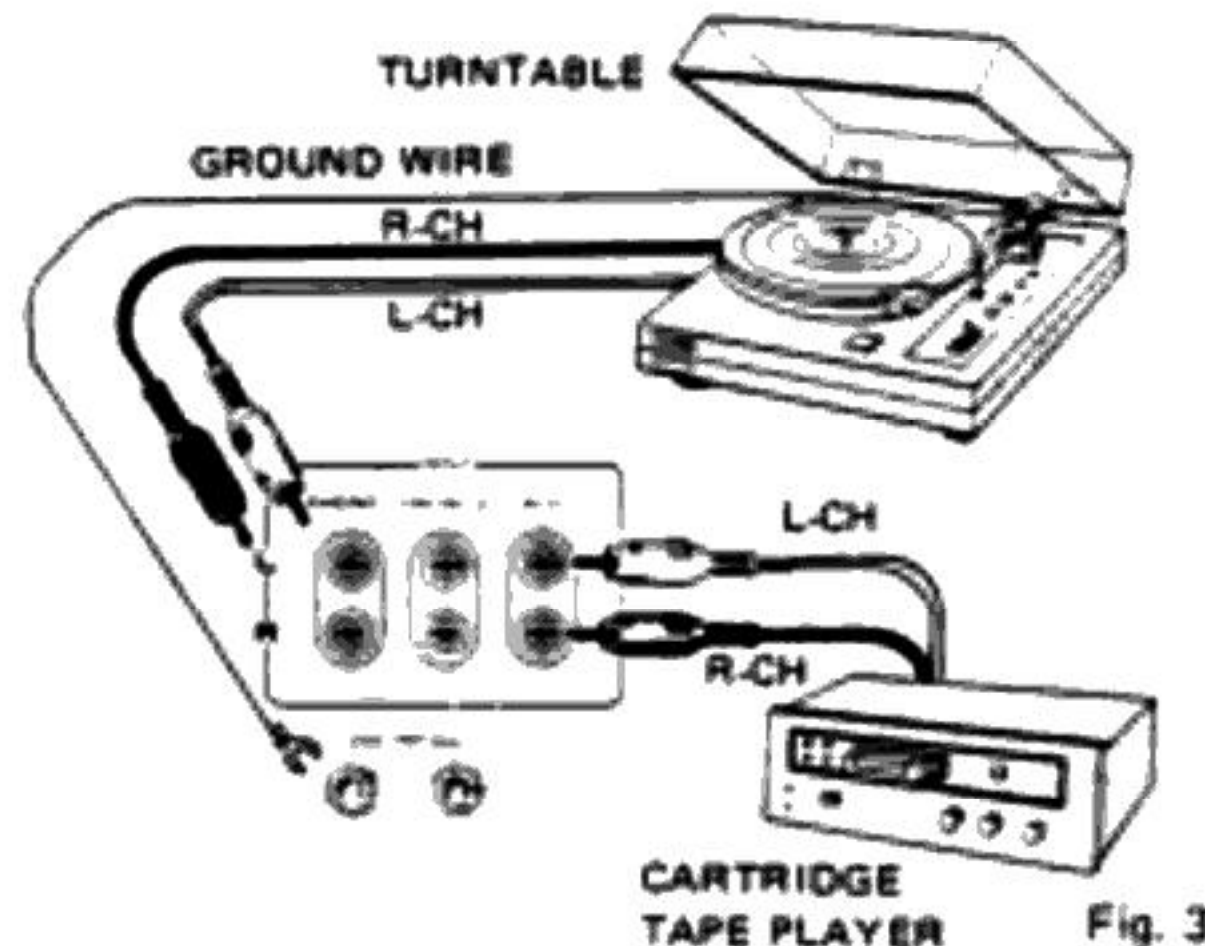

Fig. 3
- Connections between the turntable OUTPUT terminals and the receiver PHONO input jacks should be made as shown in Fig. 3, taking care not to confuse L & R channels. If, as in Fig. 3, the turntable is fitted with a ground lead or plug, this should be connected to the receiver GND terminal.
These are a set of spare input jacks, which can be connected to a cartridge tape player, television sound tuner, or other signal source. The upper of the two jacks is the L (left) channel, and the lower is the R (right) channel (Fig. 3).